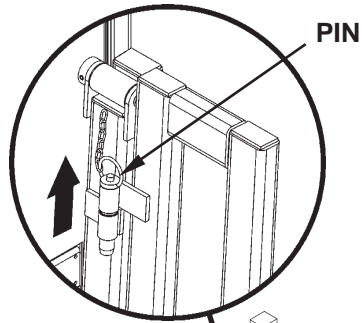
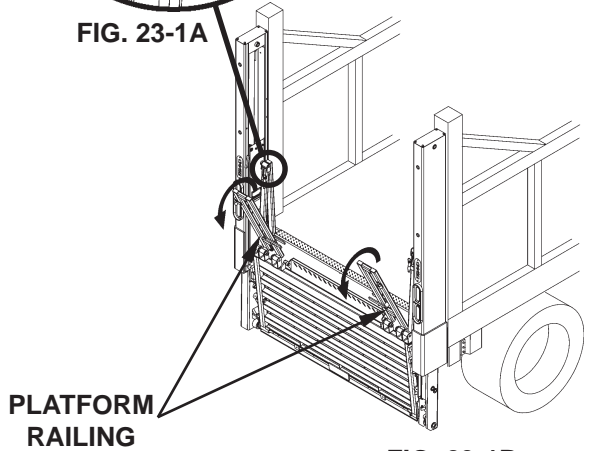

FIG. 23-1A
FIG. 23-1B
3. Remove pin (FIG. 23-1A) on each side of platform to unlock platform railing. Lower the railing until it hangs over the platform as shown in FIG. 23-1B.